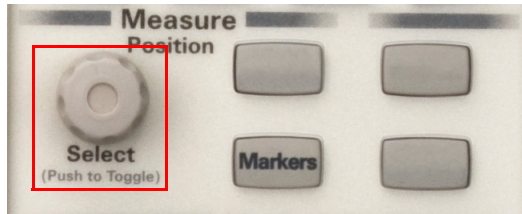

Figure 2-77 Select knob in the Measure section
- 1 Push  in the Measure section on the front panel to select or toggle between markers A and B as shown in Figure 2-77.